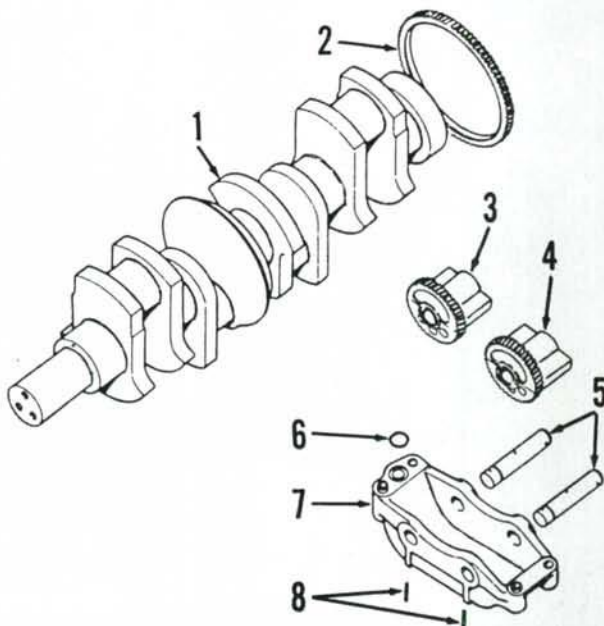

Fig. 53—Exploded view of engine balancer used on D-206, D-239 and D-268 four cylinder engines. Balancer drive gear (2) is a shrink fit on crankshaft.
56. R&R AND OVERHAUL. All D-206, D-239 and D-268 engines are equipped with an engine balancer which is mounted on underside of engine crankcase. Balancers are driven by a renewable gear (2—Fig. 53) which is a shrink fit on crankshaft. The balancer consists of two unbalanced gear weights which rotate in opposite directions at twice crankshaft speed. They produce forces which tend to counteract the vibration which is inherent in four cylinder engines having a single plane crankshaft (1 and 4 throws displaced 180 degrees from throws 2 and 3). It is
To install balancer assembly, first rotate crankshaft to position number two piston at TDC of compression stroke. Place new "O" ring (6—Fig. 53) in recess on balancer. Then, with weights toward bottom of balancer housing and weight gear timing marks aligned, install balancer so that timing mark on balancer drive weight is aligned with timing mark on balancer drive gear (2). Use new "O" rings and install oil pump pressure and suction pipe assembly. Using a dial indicator, check backlash between balancer drive weight gear (4) and balancer drive gear (2). Backlash should be 0.010-0.016 inch (0.25-0.40 mm) on D-206 and D-239 engines or 0.009-0.020 inch (0.23-0.51 mm) on D-268 engine.
57. RENEW BALANCER DRIVE GEAR. To renew balancer drive gear (2—Fig. 53), first remove crankshaft from engine. Remove worn or damaged drive gear by using a chisel and hammer and splitting the gear. Remove any burrs which might be present on gear mounting surface of crankshaft. Heat new gear to 360-390° F (180-200° C), align the single timing mark (below tooth space of drive gear) with the notch on crankshaft flange and slide drive gear on crankshaft. The two marked teeth on drive gear should be toward flywheel end of crankshaft.